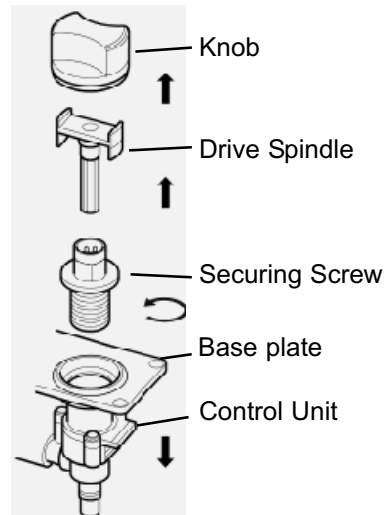

Fig. 5
- (iii) Control unit(s) can now be released for inspection (see Fig. 5).